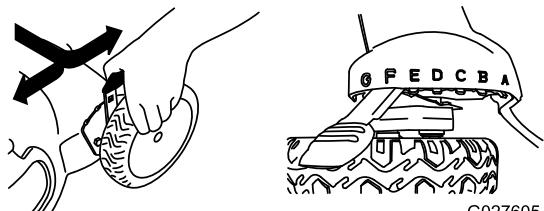

Figure 13
**Note:** To raise the machine, move all 4 cutting height levers forward; to lower the machine, move them all rearward (Figure 13).